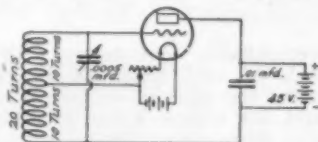

FIG. 1
**L**AST winter about this time I was fooling with a simple heterodyne using the Hartley circuit (Fig. 1) which I believe I got from QST. It consisted of a coil of about 20 turns, tapped in the middle, a .0005 variable condenser, an amplifying tube and the "A" and "B" supplies.
That set me thinking and I constructed a small 5-turn flat spiral loop approximately 3 feet on a side and tapped in the middle and substituted it for the coil of Fig. 1 and found that this circuit still oscillated very nicely. You will notice that there is no grid condenser or grid leak. As long as the voltage is kept low they are not needed but as soon as the voltage is raised to over 150 volts it becomes necessary to add them for the proper and safe operation of the tubes.